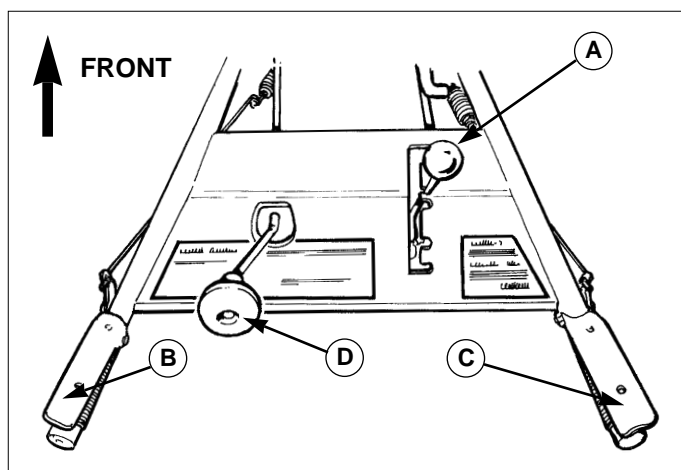

Figure 7. Operator's Control Position
3. Fully press and hold the Auger Control (C, Figure 7) on the right-hand grip to begin auger rotation. To disengage the auger, completely release the lever.
4. Fully press and hold the traction Drive Control lever (B, Figure 7) on the left-hand grip to engage the traction drive and begin moving the snowthrower. To disengage the traction drive, completely release the lever.
5. Select forward or reverse speeds as needed using the Speed Selector (A, Figure 7). Release the Drive Control lever whenever changing drive speeds.
Use the Speed Selector (A, Figure 7) to control the drive speed of the snowthrower. There are five forward speeds and two reverse speeds.
To change speeds, first release the traction Drive Control lever (B, Figure 7), then move the Speed Selector to the desired speed setting. Fully press the traction Drive Control lever to resume operation.